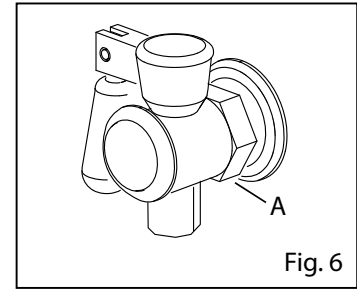

Fig. 6
- Unscrew the valve (Fig. 6/A)